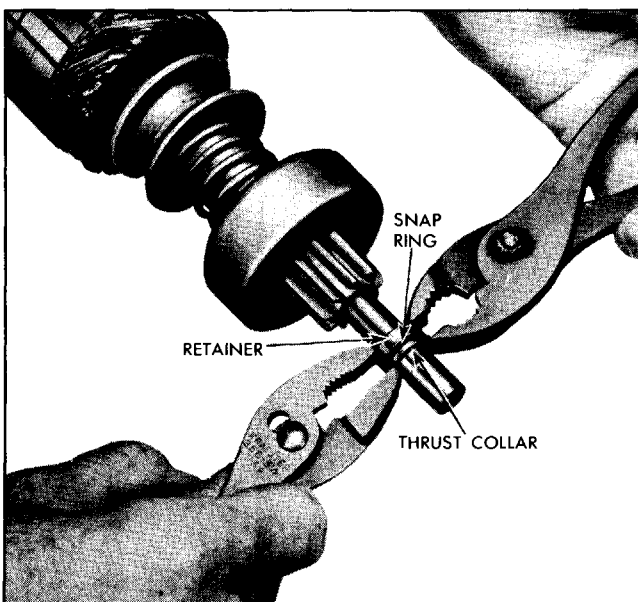

Fig. 12-35 Forcing Retainer Over Snap Ring
f. Place armature flat on work bench, and position retainer and thrust collar next to snap ring. Then, using two pairs of pliers at same time (one pair on either side of shaft), grip retainer and thrust collar and squeeze until retainer is forced over snap ring (Fig. 12-35).